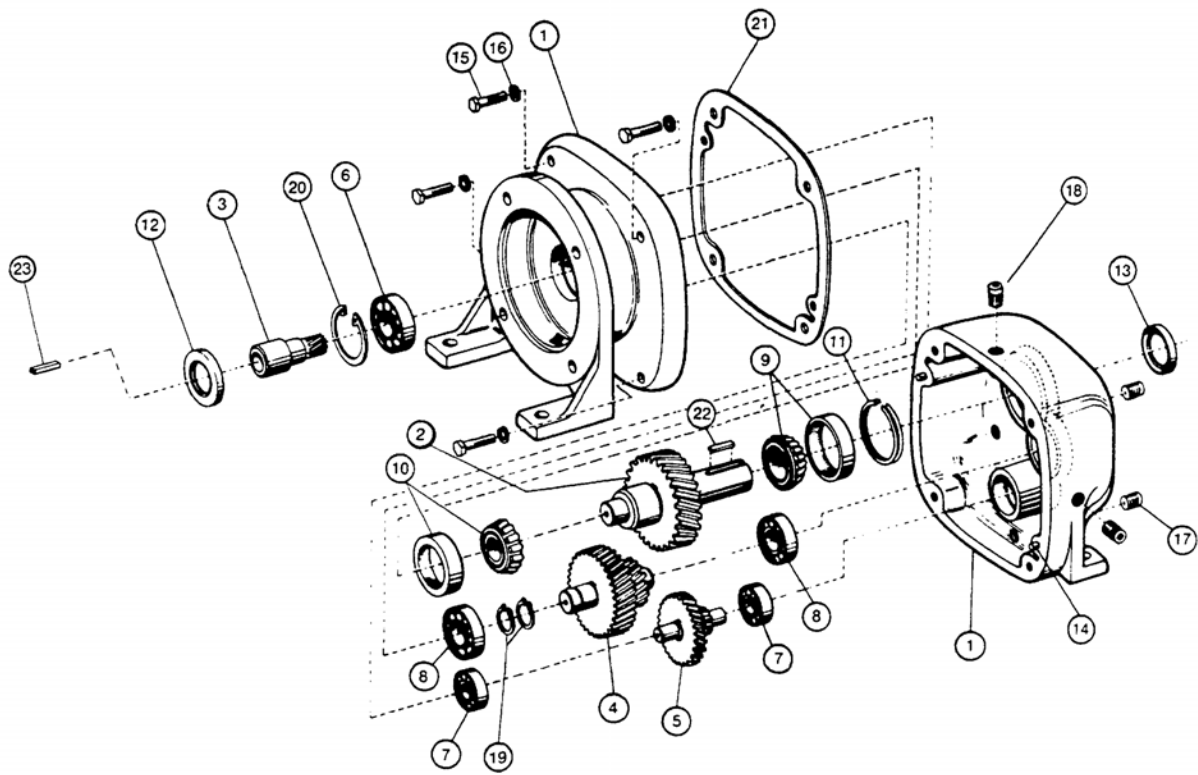

Figure 3. Gear Reducer
If removed, secure the key (12) in the gear reducer keyway with “Loctite Retaining Compound No. 680” or equivalent and slide the eccentric over the gear reducer shaft. Secure it by tightening the socket head capscrew (2, Figure 3).